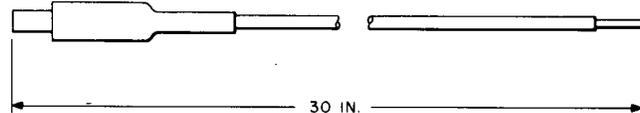

Fig. 16—736A Clutch Test Probe Tool
2.16 736A: The 736A clutch test probe tool (Fig. 16) is used to connect the terminals of the wiring field to the rear of the equipment. This tool is equipped on one end with a clutch test probe and is bare wire on the other end.